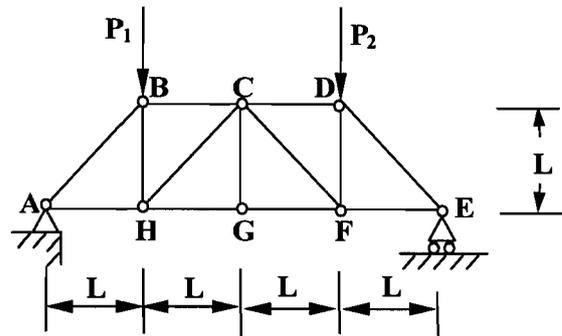

Figure 10
11. Find the axial forces in all the bars of the truss shown in Fig. 10, for each of the following loading systems: